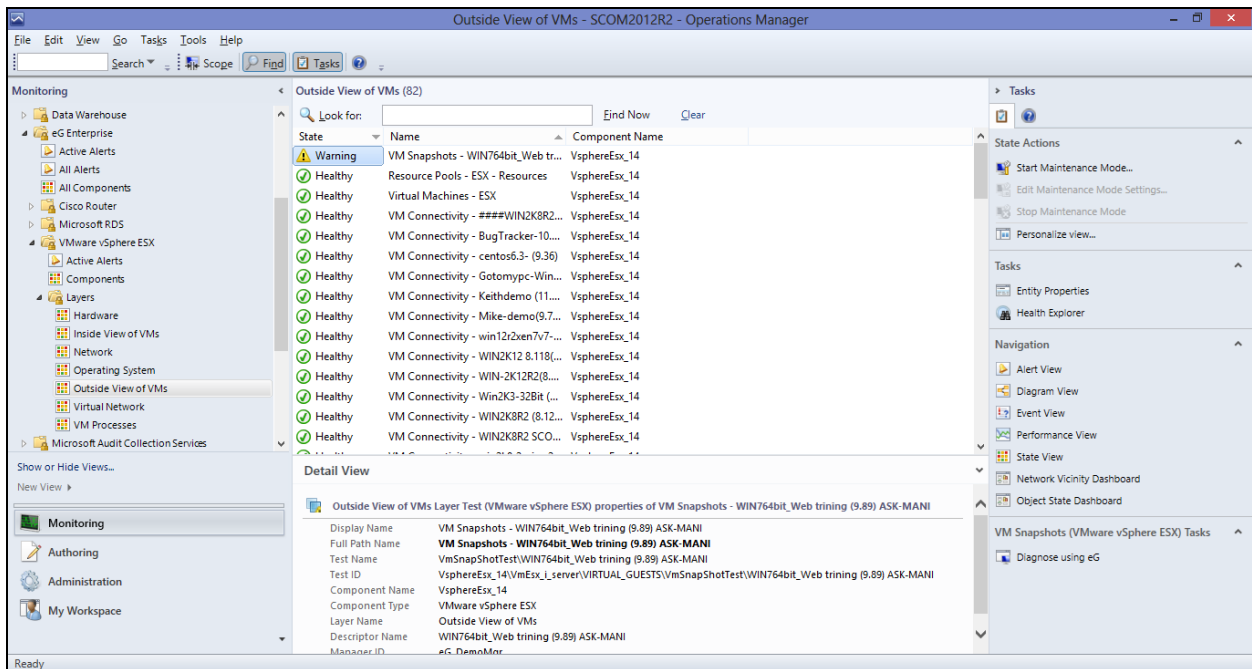
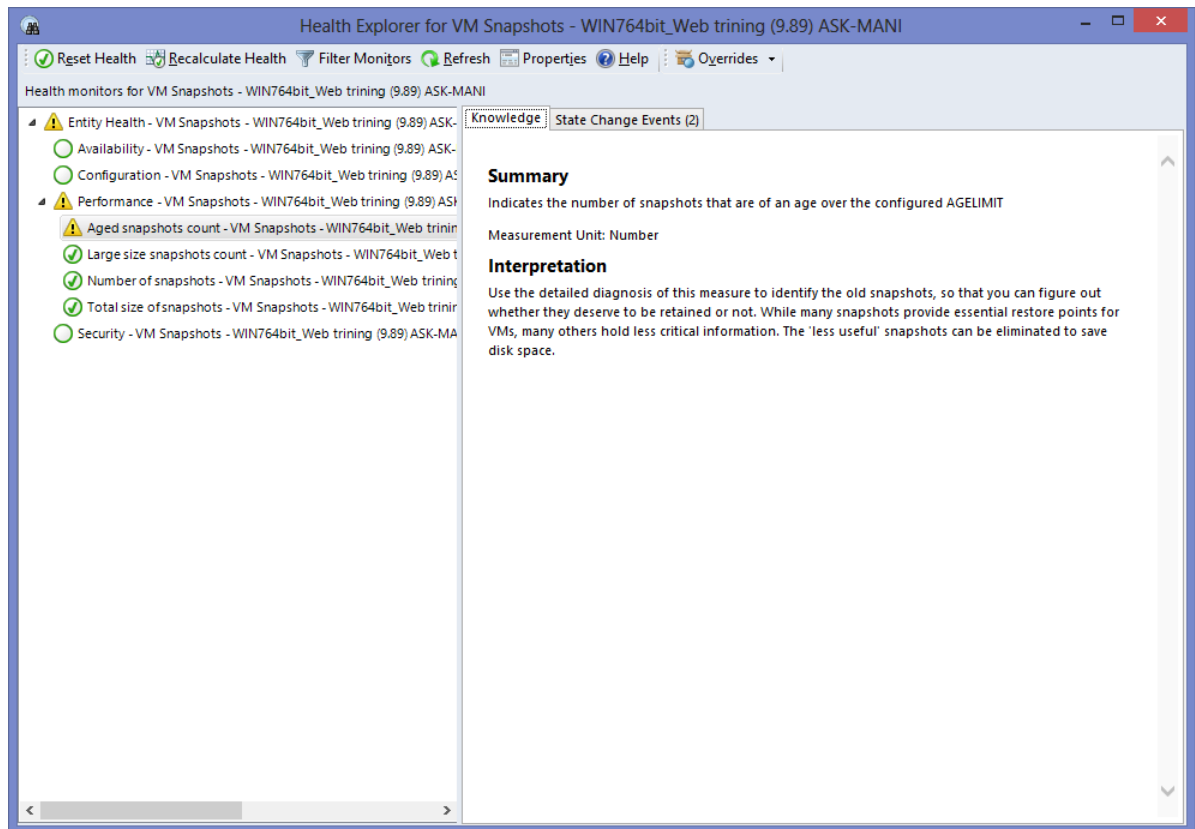

Figure 4.21: Clicking on the Health Explorer option of a test mapped to a particular layer
Figure 4.22: Health explorer for the VM Snapshots test mapped to the OutsideView of VMs layer of a VMware vSphere ESX server
- Figure 4.22 will then appear. As you can see, in the left panel of Figure 4.22, all the measures of the **VM Snapshots** test (that we had earlier selected from the SCOM console of Figure 4.21) are grouped under the **Performance** node (i.e., category) as monitors. From the left panel, we can clearly infer that the **Warning** on the **VM Snapshots** test is owing to a **Warning** alert on the **Aged snapshots count** measure of the test.